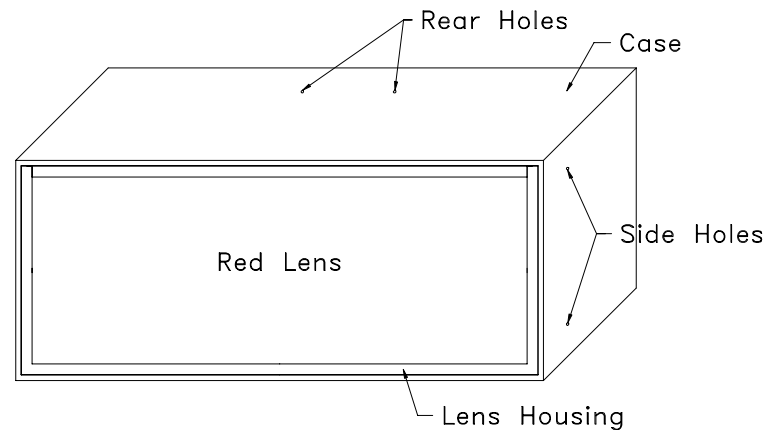

Figure 6 - Hole Locations
1. Thread four #8 self-tapping screws into the four side holes in the case using the hex driver (see Figure 6). Under the surface, the holes are much larger, and should thread easily once the screws are started. Once the screws have started, thread them down approximately three turns.
1. Thread four #8 self tapping screws into the four side holes (see Figure 6) on the case. Under the surface, the holes are much larger, and should be threaded easily once the screws are started. Thread them down until the heads of the screws are just touching the case.